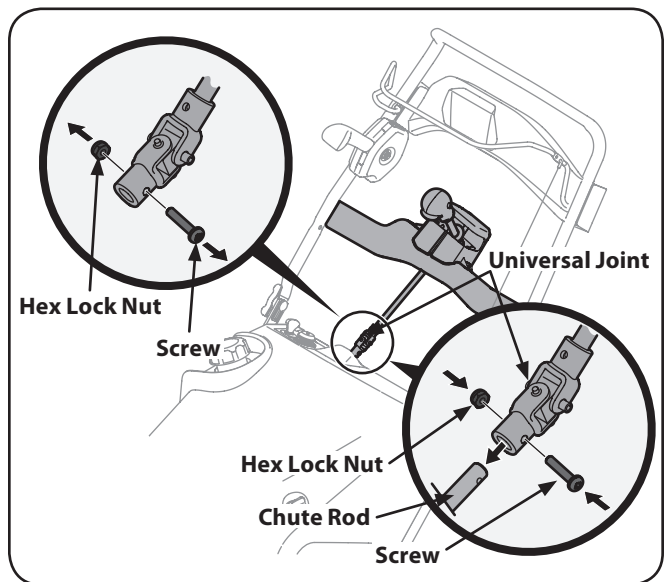

Figure 3-9
3. Remove the screw and hex lock nut from the universal joint. See Figure 3-9.
4. Install the universal joint on the end of the chute rod as shown in Figure 3-9.
5. Secure the universal joint with the hex nut and screw previously removed. See Figure 3-9.